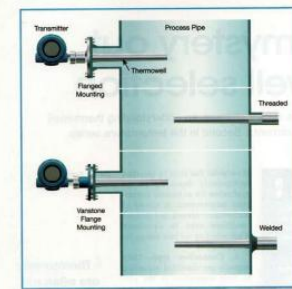

Figure 1: Selecting a thermowell involves specific process conditions and maintainability. At graphics courtesy Emerson Process Management.
1. Connection type—Thermowells are classified according to their connection to the process. The most common types are threaded, socket weld, and flanged. Each of these has a stem or shank that extends into the process that may be straight with constant diameter, tapered all the way from entry point to the tip, partially tapered, or stepped (see Figure 1).
1. **Connection type**—Thermowells are classified according to their connection to the process. The most common types are threaded, socket weld, and flanged. Each of these has a stem or shank that extends into the process that may be straight with constant diameter, tapered all the way from entry point to the tip, partially tapered, or stepped (see Figure 1).